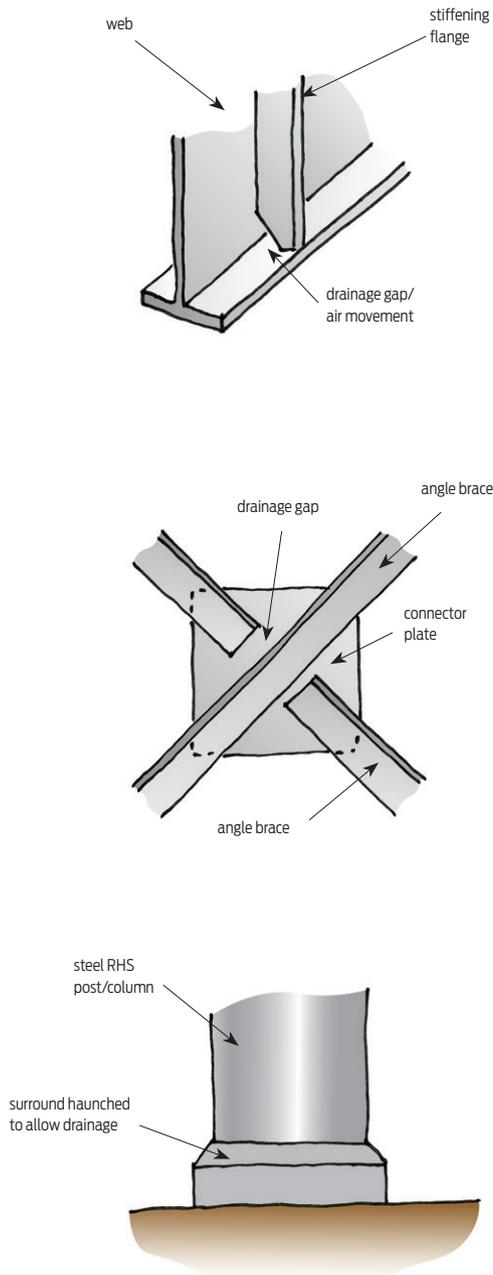

Figure 1. Avoiding dirt and moisture traps.
- avoid dirt and moisture traps as shown in Figure 1